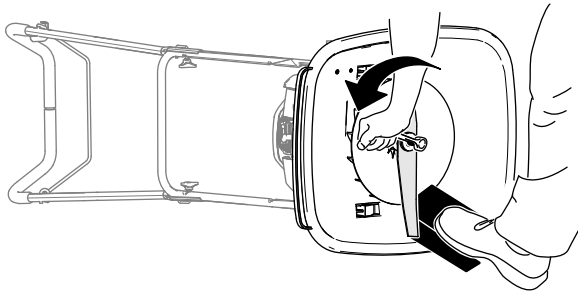

Figure 30
- Use a block of wood to hold the blade steady (Figure 30).